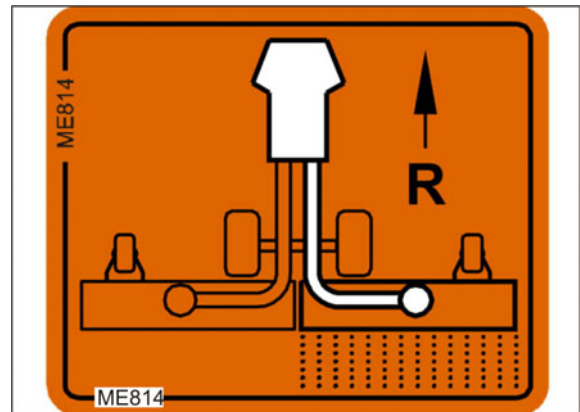

Fig. 216
4. Throw the lever to the left (Fig. 216/2) and lock it: